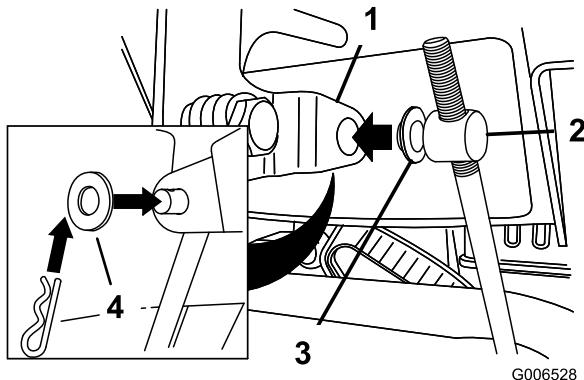

Figure 3
5. Remove the hairpin cotter and the outer washer from the trunnion on the upper end of the speed control rod (Figure 3).
- Note:** Do not remove the inner washer (Figure 3).
8. Lift up the speed control rod and insert the trunnion in the hole in the speed selector lever located under the control panel (Figure 3).